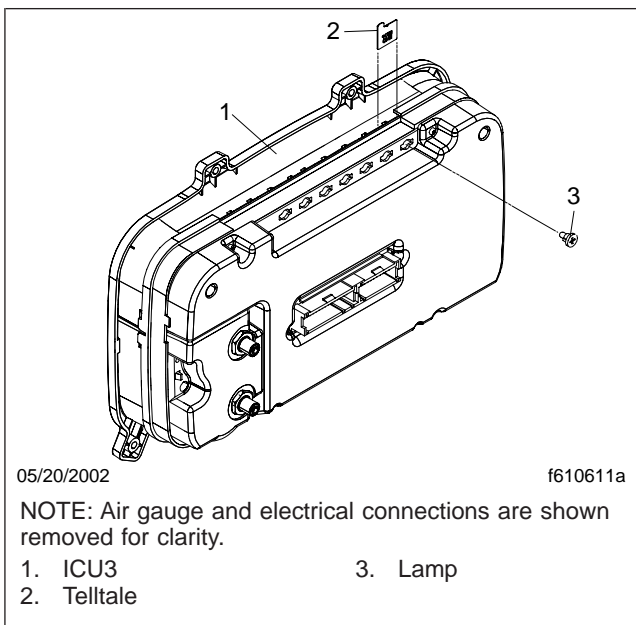

Fig. 4, ICU3, Rear View
5. Using a pair of needlenose pliers or a similar tool, grab the exposed tab at the top of the telltale slot and carefully pull the telltale out from the top of the ICU. See Fig. 4.